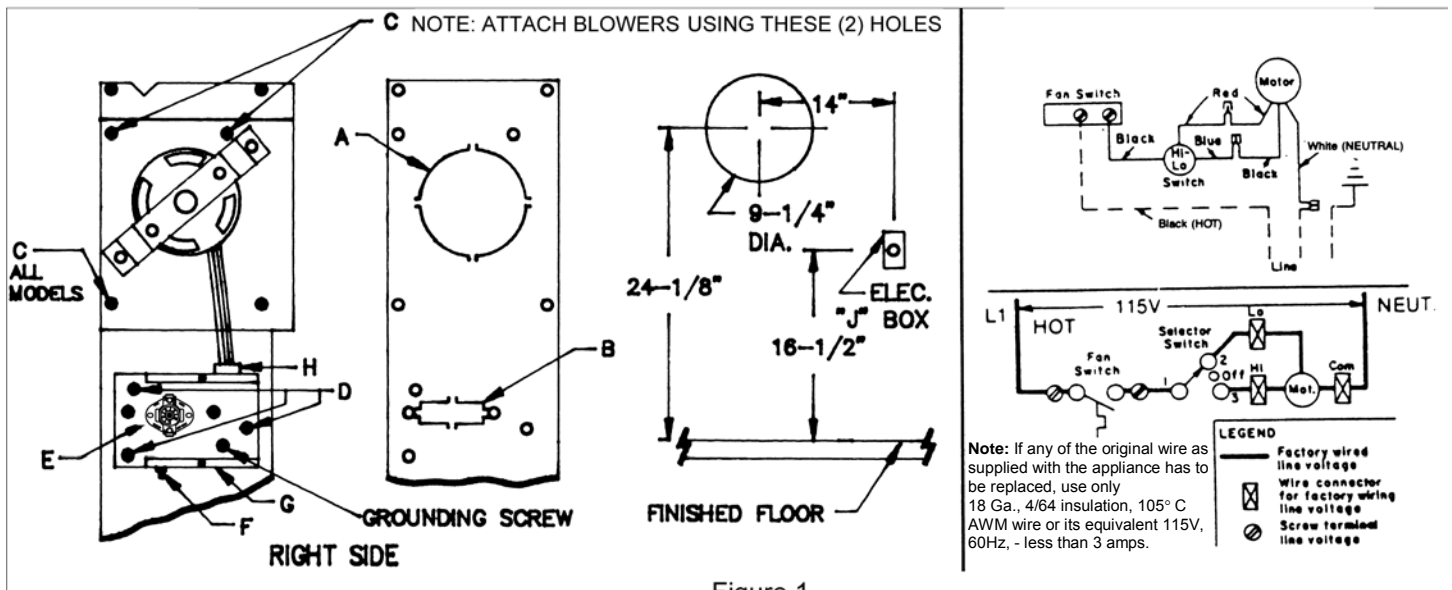

Figure 1
1. Remove the knock-out plates "A" and "B" from right side of the furnace. (Figure 1 page 20).
2. Remove the junction box cover and place the blower and junction box in position as shown on Figure 1 page 20.
3. Attach the blower and the junction box to the inner casing using the pre-punched holes with screws "C" and "D" provided with this kit. See Figure 1 on page 20 for proper mounting hole to use with your furnace model (see rating plate for furnace model number). Reattach the junction box cover.
2. Install a 115V line in accordance with local codes, connecting as shown in the wiring diagram. (Figure 1 page 20).